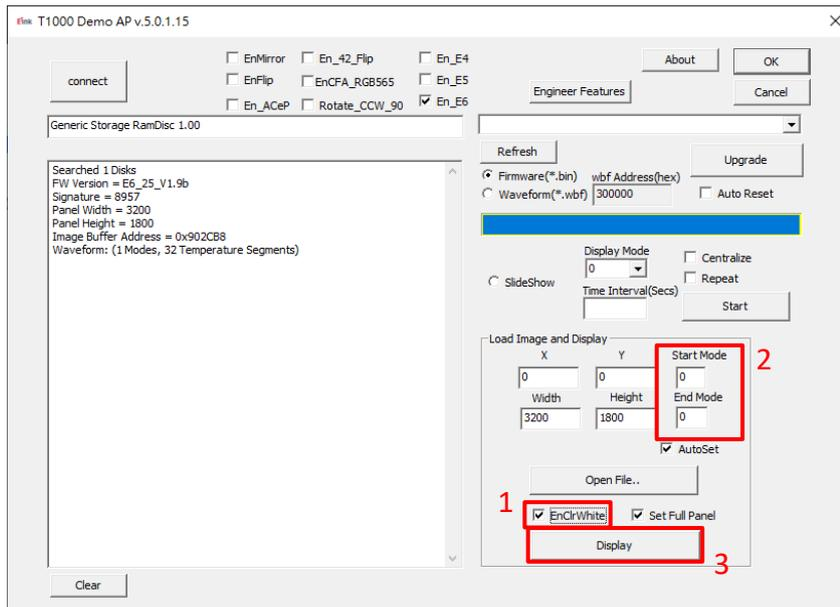

Figure 3.3
(1) How to minimize artifact
- ◆ Execute "T1000_Windows_AP_x.x.x.xx.exe" (refer to Fig 3.3)